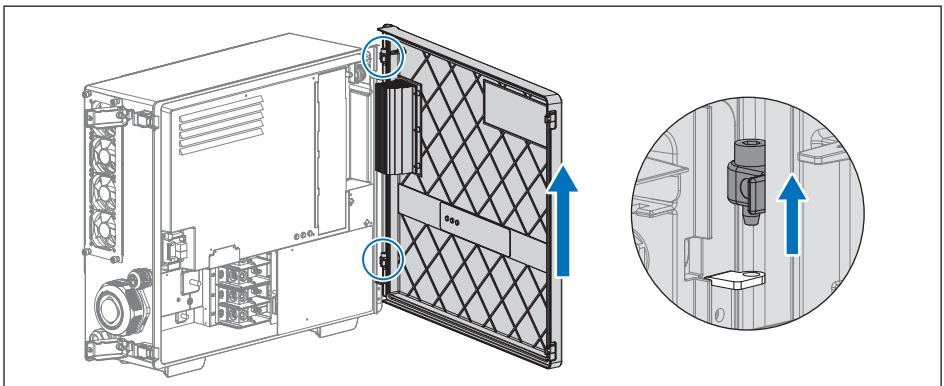

Figure 5-3: Remove the door
3. The inverter door can be removed for wider working space during installation or maintenance as **Figure 5-3**.